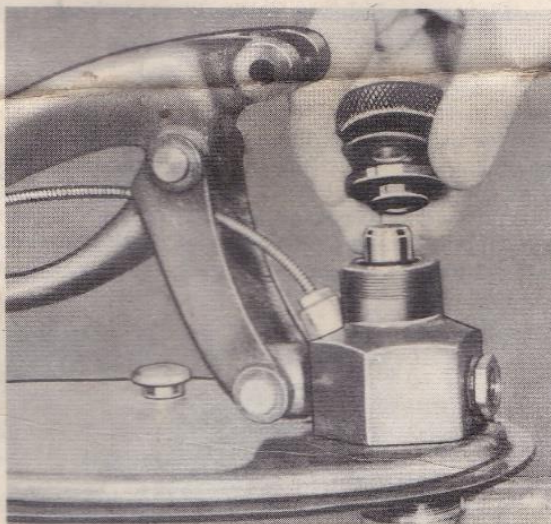

Figure 13 - Replacing Piston Rod Packing
(1) Replace piston rod packing (Fig. 13).